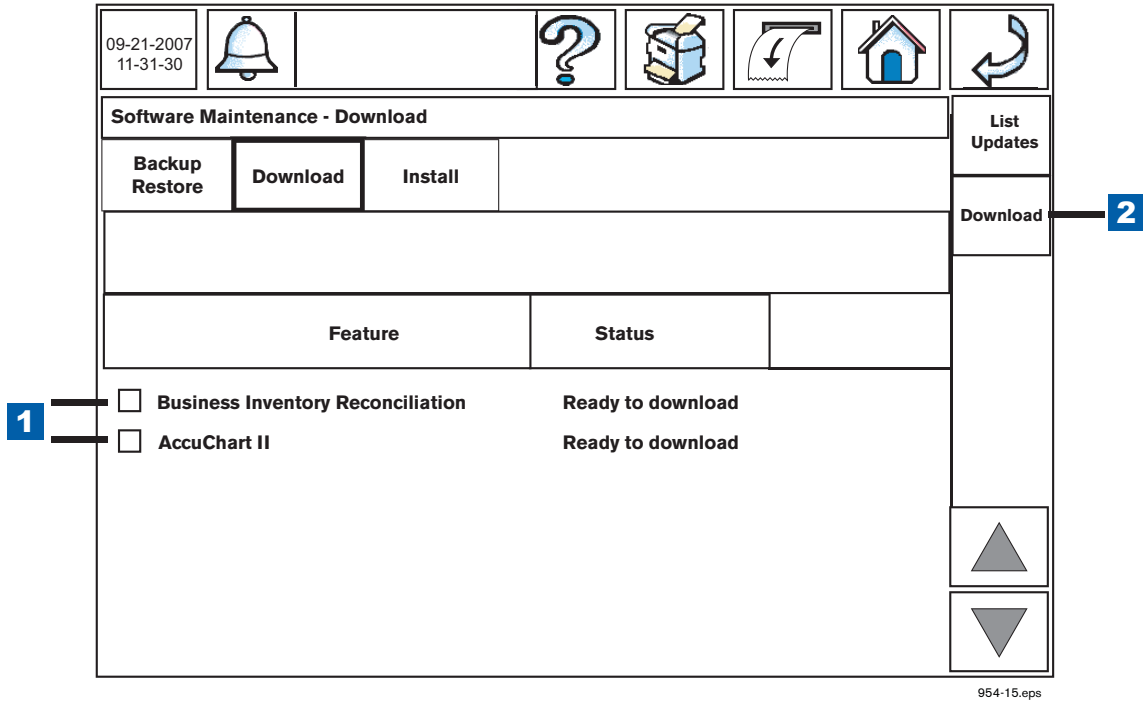

Figure 15. Downloading Software Features from the USB Adapter
3. When the Software Maintenance - Backup Restore screen displays touch the Download tab. Touch the check boxes beside the feature(s) you wish to download to the console from the i-button (item 1 in Figure 15).
4. Once you have selected the desired features to download, touch the Download button to begin the download process (item 2 in Figure 15).
LEGEND FOR NUMBERED BOXES IN Figure 15